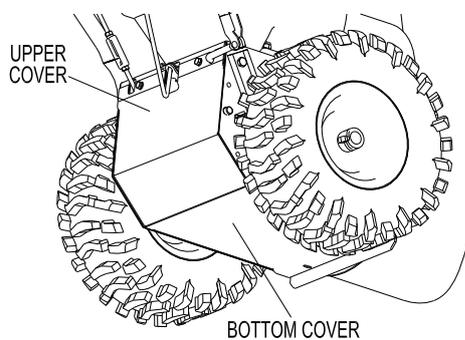

FIG 20
- 6.5.3 Remove the upper and the bottom cover. (FIG 20)
6.8.3 Remove the upper and the bottom cover. (FIG 20)